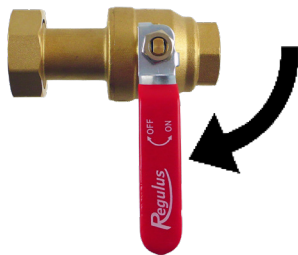

Fig. 1
1. Close the ball valve by turning the lever by 90° in the direction of the OFF arrow (Fig. 1)